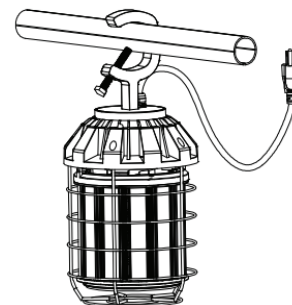

Figure 2
STEP 3: Secure the fixture to a mounting surface by tightening the mounting screw. (Figure 2)